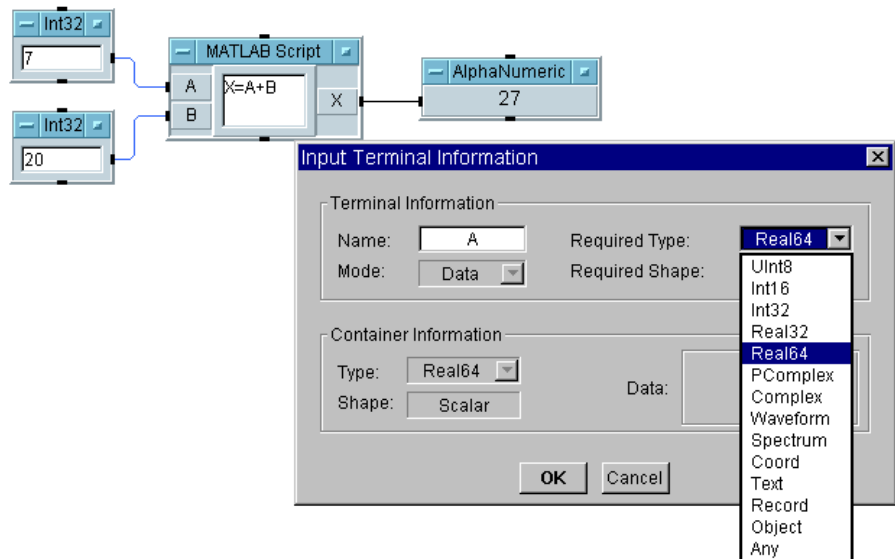

Figure 125 Changing Input Terminal Data Type
- 5 Double-click on terminal **A** to open the Input Terminal Information dialog box. Click on **Required Type:** to display the drop-down menu, select Real64, and click **OK**. Double-click on terminal **B** and change it to a Real64 as well, as shown in Figure 125.